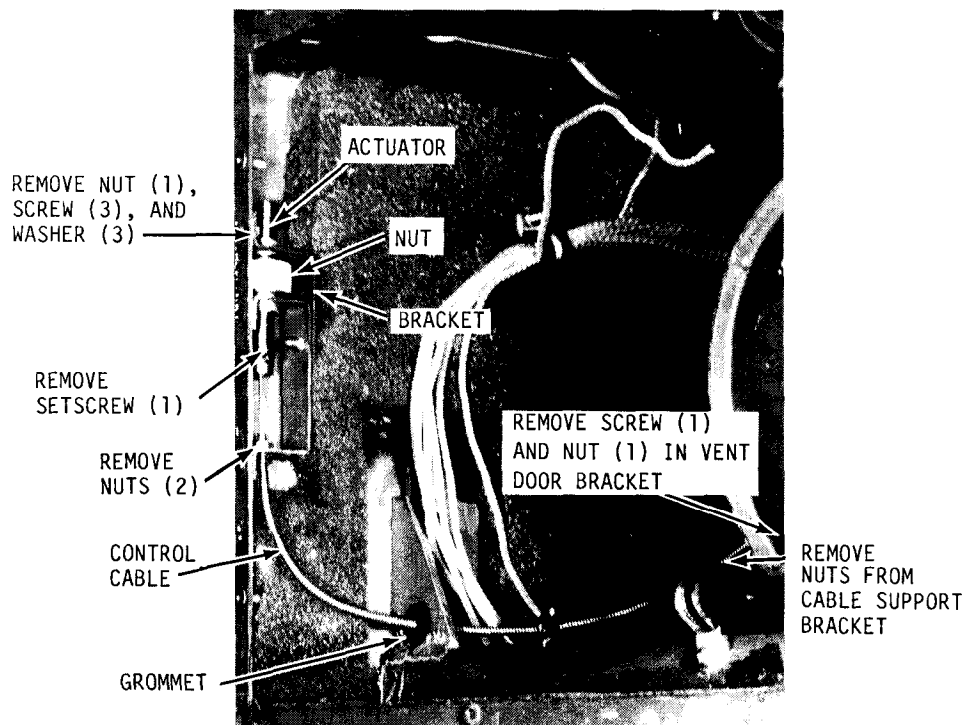

Figure 4-23. Vent damper actuator removal and installation
(2) Refer to figure 4-23 and disassemble the vent damper actuator and control assembly as follows:
(1) Refer to figure 4-23 and install the vent actuator as follows: